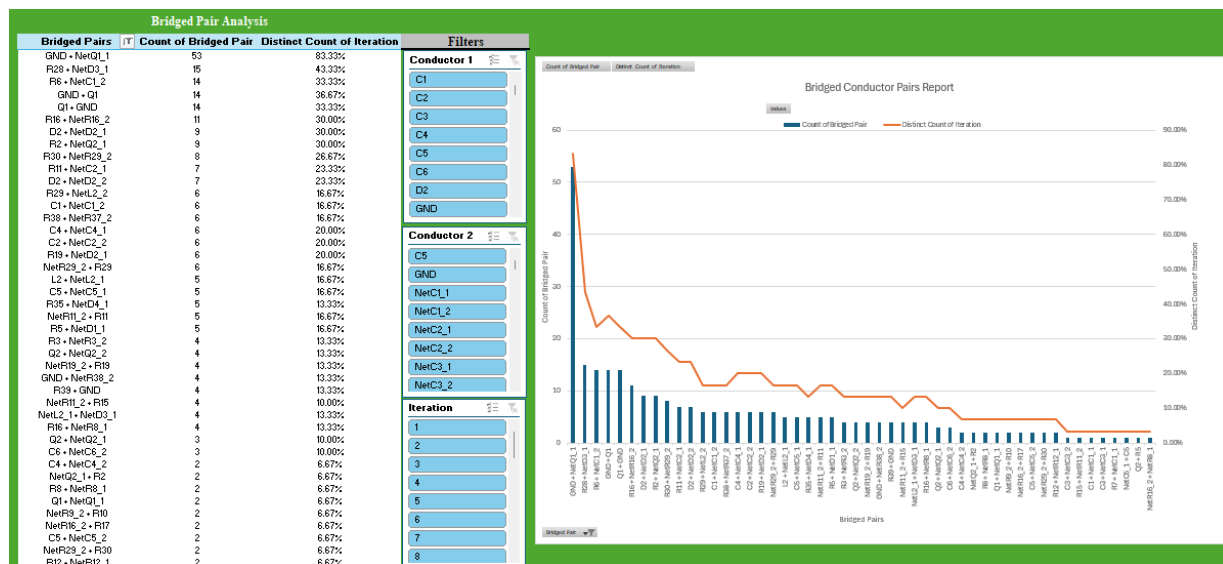

Figure 25: Bridged Pair Analysis Section
- h. In the **Bridged Whisker Analysis** sheet right click on the Bridged Pair Analysis table (Figure 25) and click refresh. This should update and load in your data.
- m. In the **Critical Bridged Whisker Analysis** sheet right click on the Critical Bridged Pair Analysis table (Figure 25) and click refresh. This should update and load in your data.